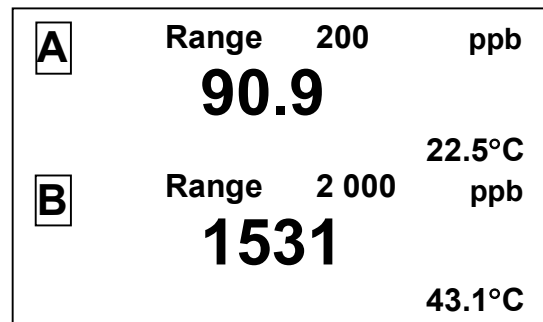

Fig. 1.6
- double channel (A and B) measurement display shown in Fig 1.6.